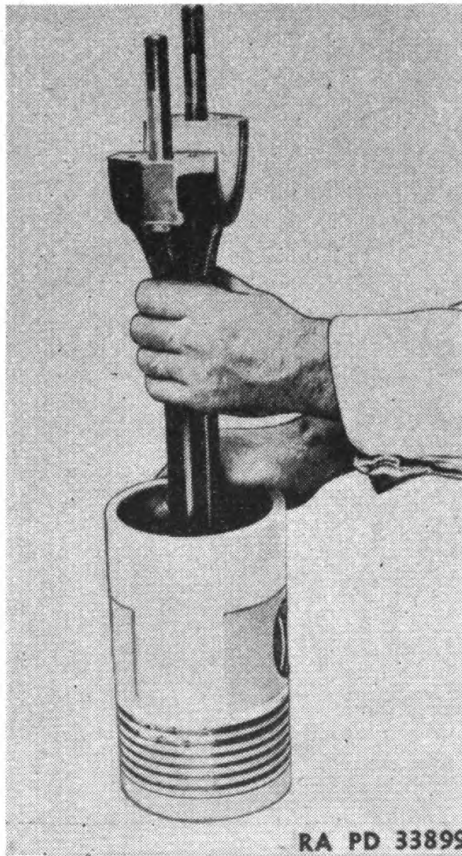

FIGURE 37.—Testing pin and bushing clearance.
(1) After the oil has been removed from the pin and bushing, it is possible to feel the clearance between them (fig. 37). This normal oil clearance must not be mistaken for wear.
(2) A new bushing should be installed only when the clearance between the bushing and a new piston pin exceeds .005 inch.
(3) New connecting rods have the piston pin bushing bored in a special machine which maintains the proper center-to-center distance and parallelism of the connecting rod bearing and piston pin bore. Reconditioned rods should be machined in the same manner.
(4) A new connecting rod makes the best templet for center-to-center distance.
(5) After pressing a new bushing into place, it should be machined accurately from .0005 inch to .001 inch larger than the new piston pin diameter.